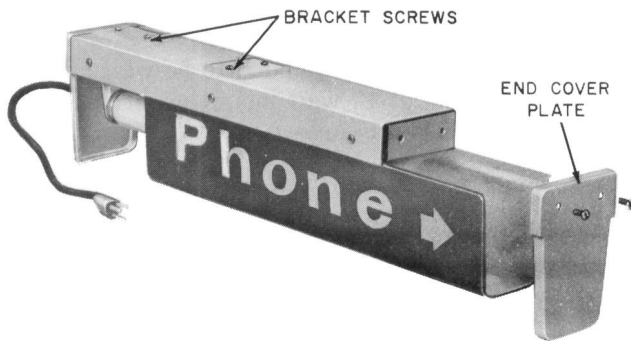

Fig. 19—KS-16422 Sign—Assembly of Parts
3.05 The four threaded holes on top of the unit (Fig. 19) are equipped with No. 8-32 by 7/16 BHM screws and No. 8 lockwashers. Use two screws to attach the unit to the mounting bracket and two to seal the holes not used.
3.06 Install F15T12/CW lamp as follows (Fig. 19).